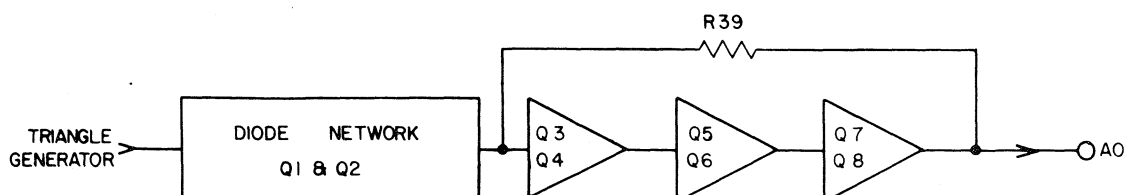

Figure 5. Sine Wave Shaper
4.4 SINE WAVE SHAPER (See Figure 5)